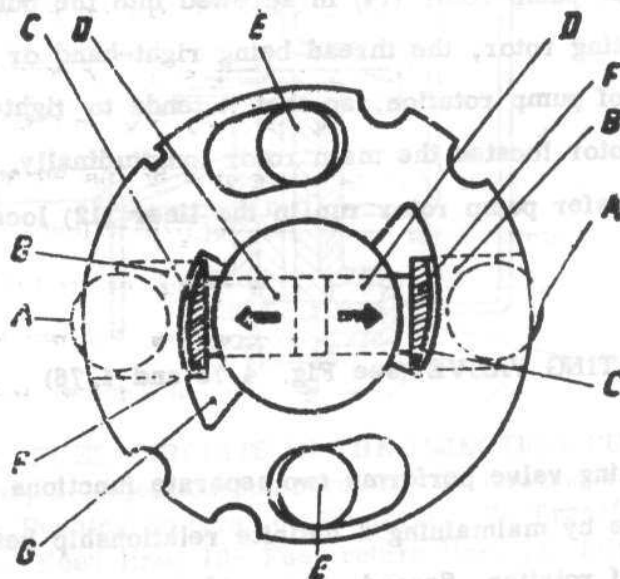

Fig. 4.74. MAXIMAL FUEL SUPPLY REGULATION
Maximal fuel setting is decided by the effective stroke of the plungers the outward travel of which can be varied. The shoes (B) - see Fig. 4.74 - actuating pump plungers (D) are retained in their guides by the top and the bottom adjusting plates (6) and (25) - see Fig. 4.72 - Ears (F) - Fig. 4.74 - integral with the shoes register in excentric slots (G) in the adjusting plates (25) - Fig. 4.72 - The top plate is clamped between the drive plate and the end of the rotor by the two screws (E) - Fig. 4.74 - securing the drive plate. These screws pass through elongated slots in the top adjusting plate; when the screws (e) are slacken the plates can be moved together, being linked by lunge in the top plate which register with slots in the bottom plate.
The outward travel of the plungers is determined by the position of the ears (F) in the excentric slots (G). In Fig. 4.74 the adjusting plates are set to give the lowest maximum fuel, that is the shortest distance the plunger can travel. This can be increased by moving the plates in a clockwise direction, viewed from the rotor. The plungers are shown on their inlet stroke, and the clearance (C) is the distance the plungers will travel to maximum fuel position.